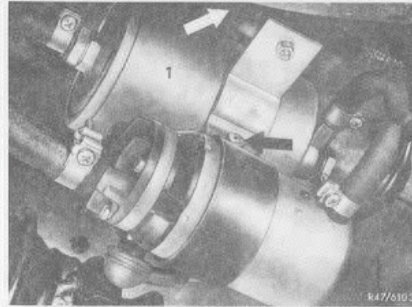

FIG. 22 1 FUEL FILTER
2. The fuel filter (Fig. 22) should be renewed every 30,000 miles. A more frequent replacement may be advisable under unfavorable operating conditions.